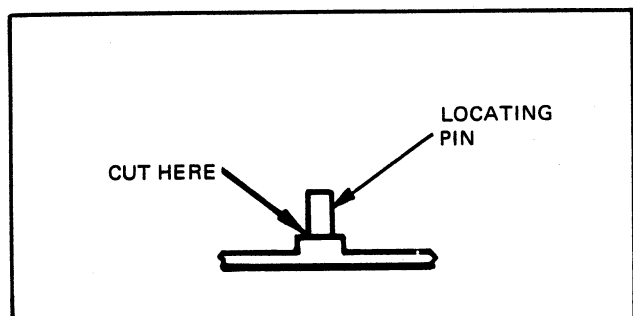

FIG. 5.57 CUT THE LOCATING PIN
2. Install the cantilever assembly on the housing. (If the cantilever assembly is of an old style and is being installed on a housing with a locating pin, you will note that there is no hole on the assembly which corresponds with the location of the pin. It is then necessary to cut off the top portion of the pin as shown in Figure 5-57).